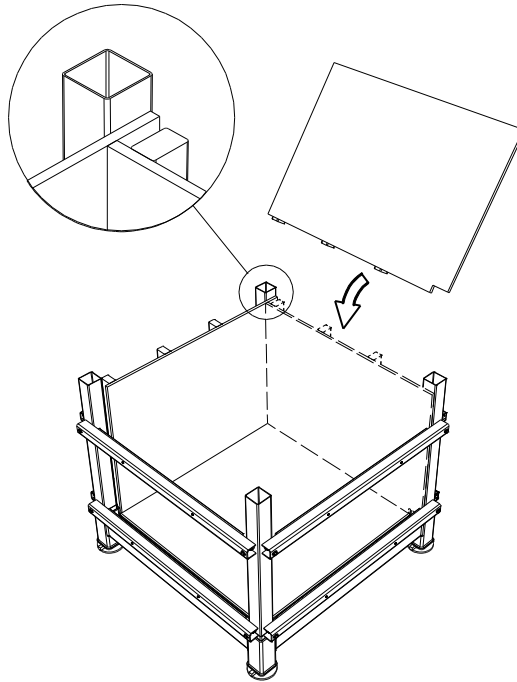

Figure 20. *Placement of the side board units.*
- 4.2 Place the four CONCRET SIDE BOARD Assy units equally one after another onto the BOTTOM BOARD located in the BASE, with the notch facing down and the WOODEN RIBS leaning towards the FORMWORK SUPPORTS see Figure 20. Make sure to place all the units overlapping so that all the sideboard units get the same support when leaning against the FORMWORK SUPPORTS.